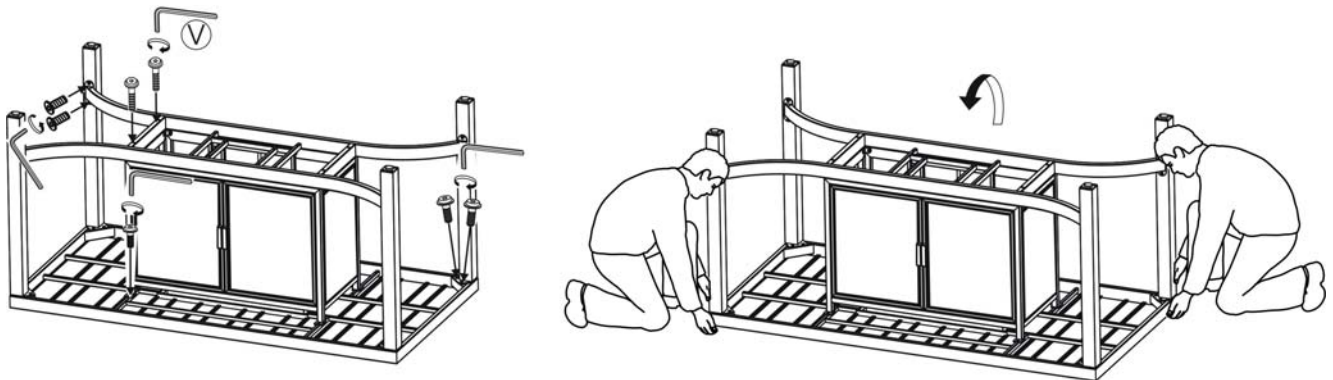
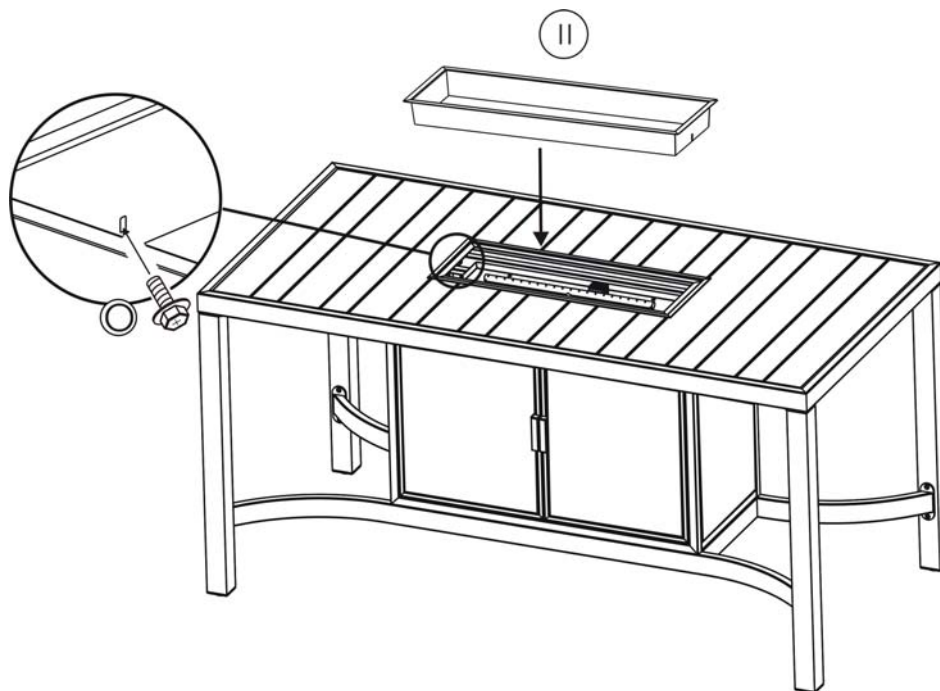

Figure 8
Figure 9
8. After making any necessary adjustments to the alignment of the fire pit, use the hex bolt driver to tighten all bolts. Repeat until all bolts are tight. Do not over tighten. Over tightening may strip bolts. With the help of another person, turn the table in the upright position See Figure 8.
9. Place the burner pan protective ring into the firepan / burner assembly as shown in Figure 8. Align the holes in the burner pan protective ring with the pre-drilled holes on the firepan / burner assembly. Secure the burner pan protective ring to the firepan / burner assembly by using the M4 screws as shown in Figure 9.